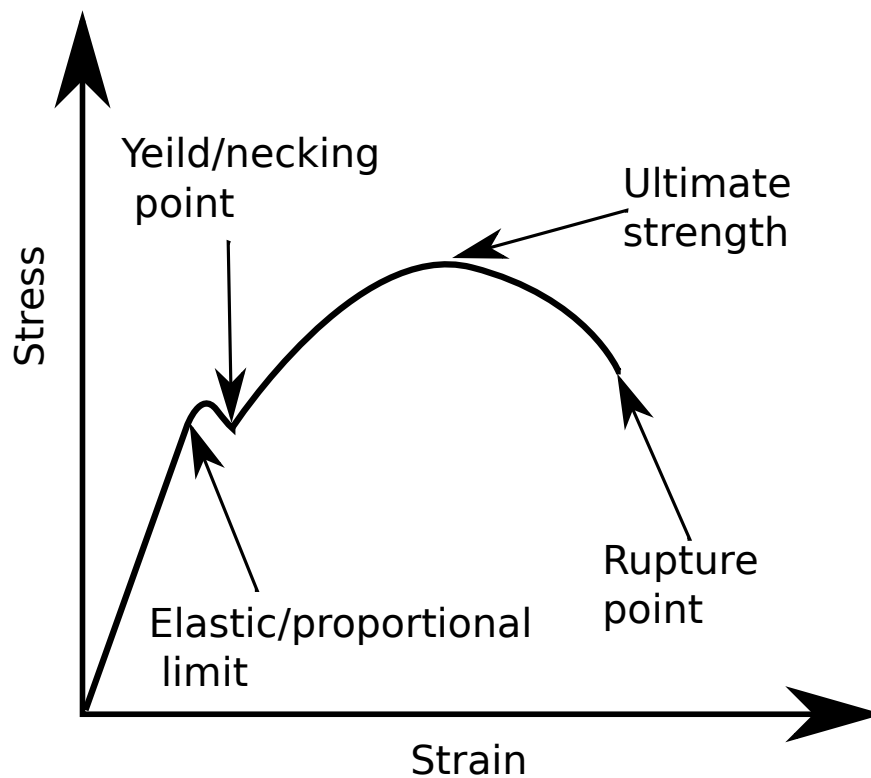

Figure 3:  $\sigma - \epsilon$  curve for steel
- Necking and rupture (failure) point on a typical  $\sigma - \epsilon$  curve for steel are given in Figure 3.